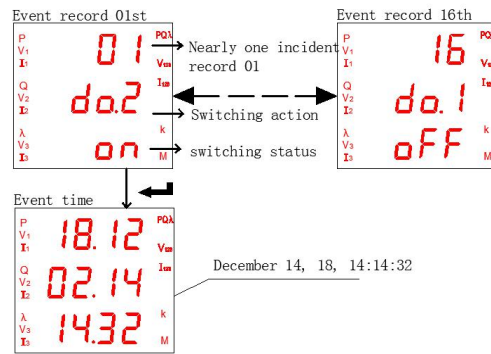

Figure 15
5.2.2 The steps to view the event record of AMC72/96 are shown in Figure 15.